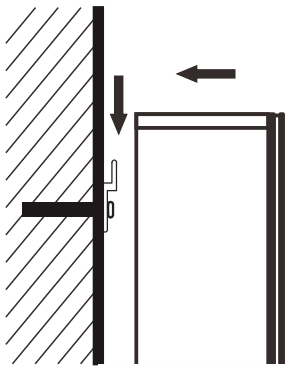
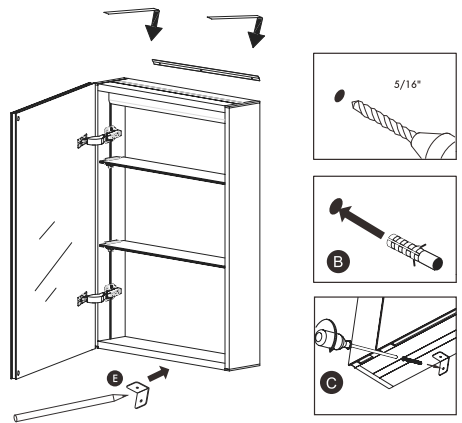
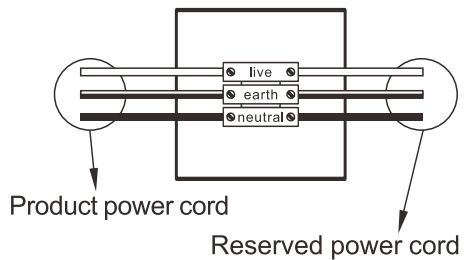

Fig. 3
Fig. 4
Fig. 6
- 2.1 Hang up the cabinet on the aluminum alloy bar which is on the wall(Fig.3), holding the fixed mount(E) at the bottom of the cabinet, and make a mark in the wall through the hole of the fixed mount with pencil.
- 2.3 Repeat the operation as shown in Fig. 3 and mount the mirror cabinet to the bar, make sure that the circuit on the wall is not energized and connect the three-core wire reserved on the wall to the three-core wire terminal block on the product (Fig. 6), Then tighten the bottom fixing screw and lock it to the wall (Fig.4-C)